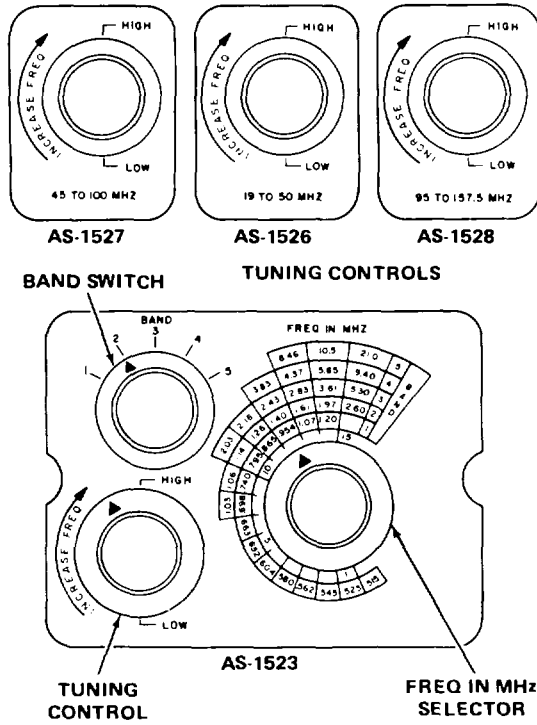

Figure 2-4. DF Antenna AS-1523, AS-1526, AS-1527, and AS-1528 Controls and Instruments
d. Antenna AS-1523 (figure 2-4)
e. Antennas AS-1526, AS-1527, and AS-1528 (figure 2-4)